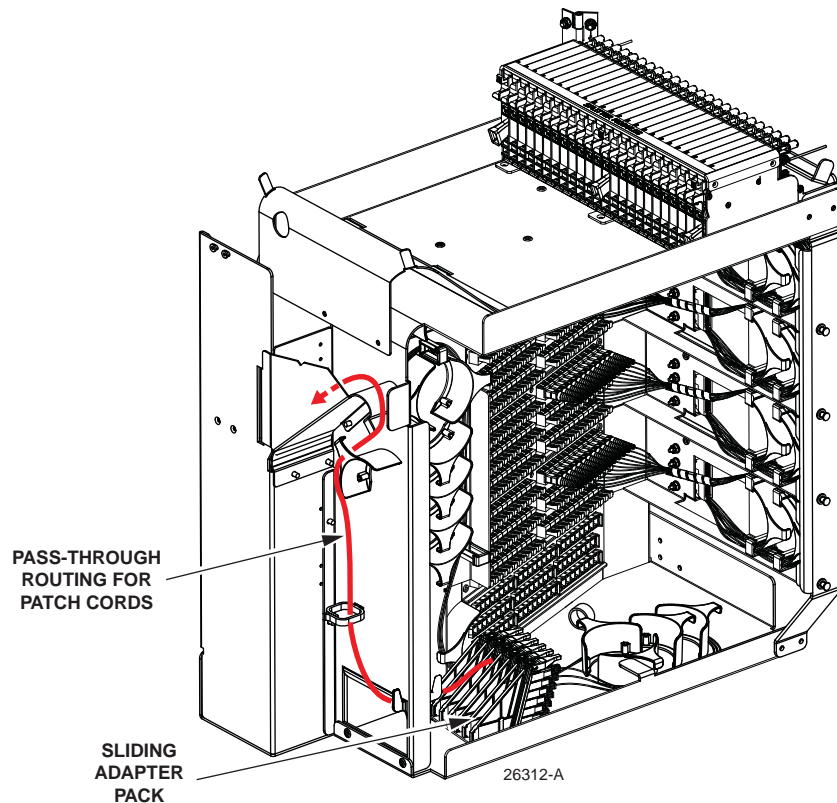

Figure 32. Routing Pass-Through Patch Cord From Sliding Adapter Pack
10. Route the pass-through patch cord to the front side of the swing-out assembly as shown in Figure 32.